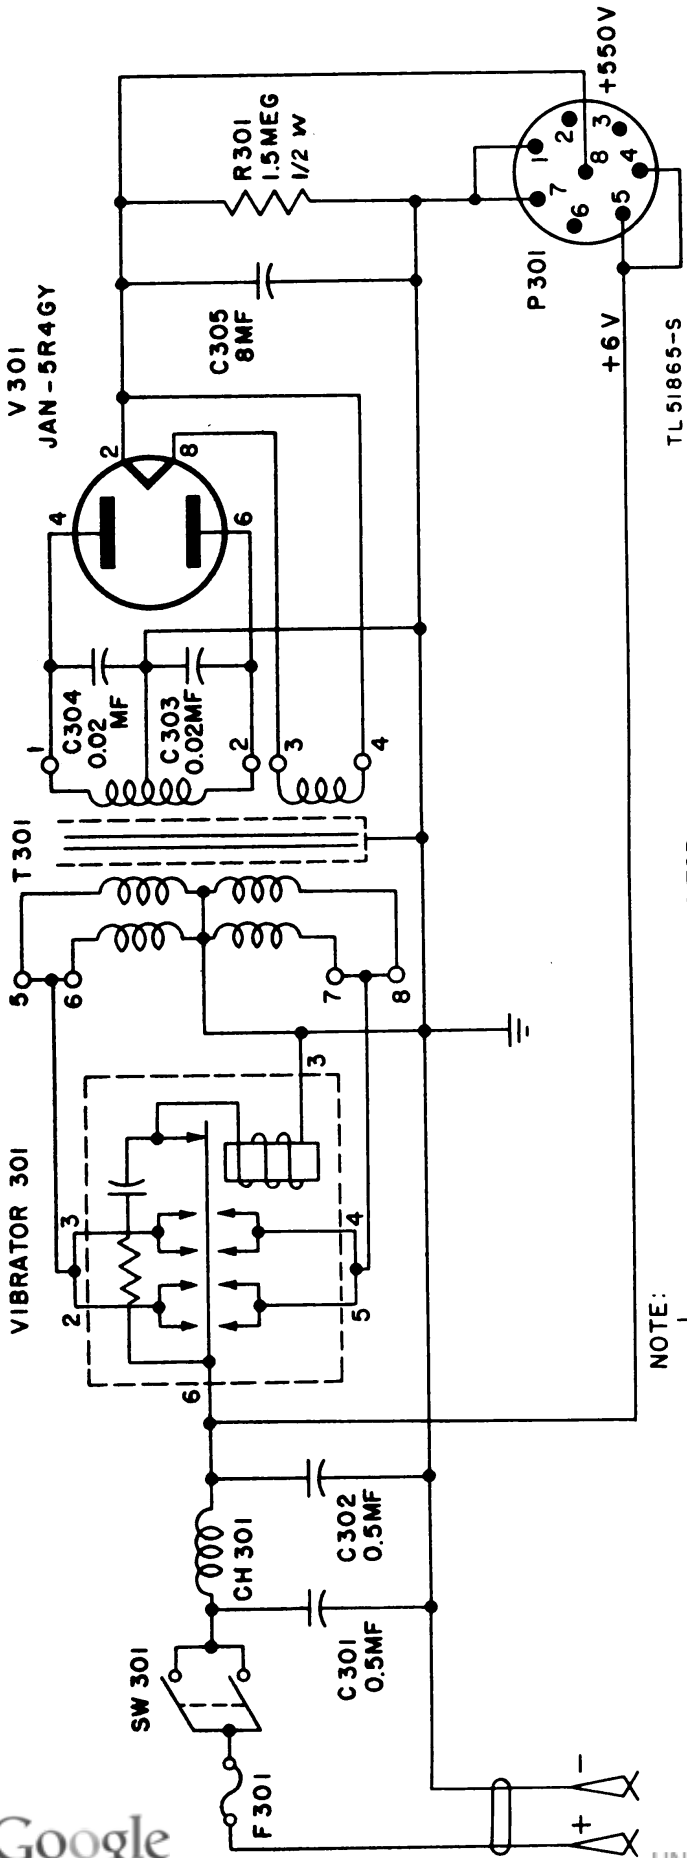

Figure 41. Vibrator Power Unit PP-84/TRC-10, schematic diagram.
a. The complete schematic diagram of the vibrator supply is shown in figure 41. The vibrator unit includes a capacitor across the points and is equipped with multiple contacts to carry the heavy primary current. The negative battery lead is grounded